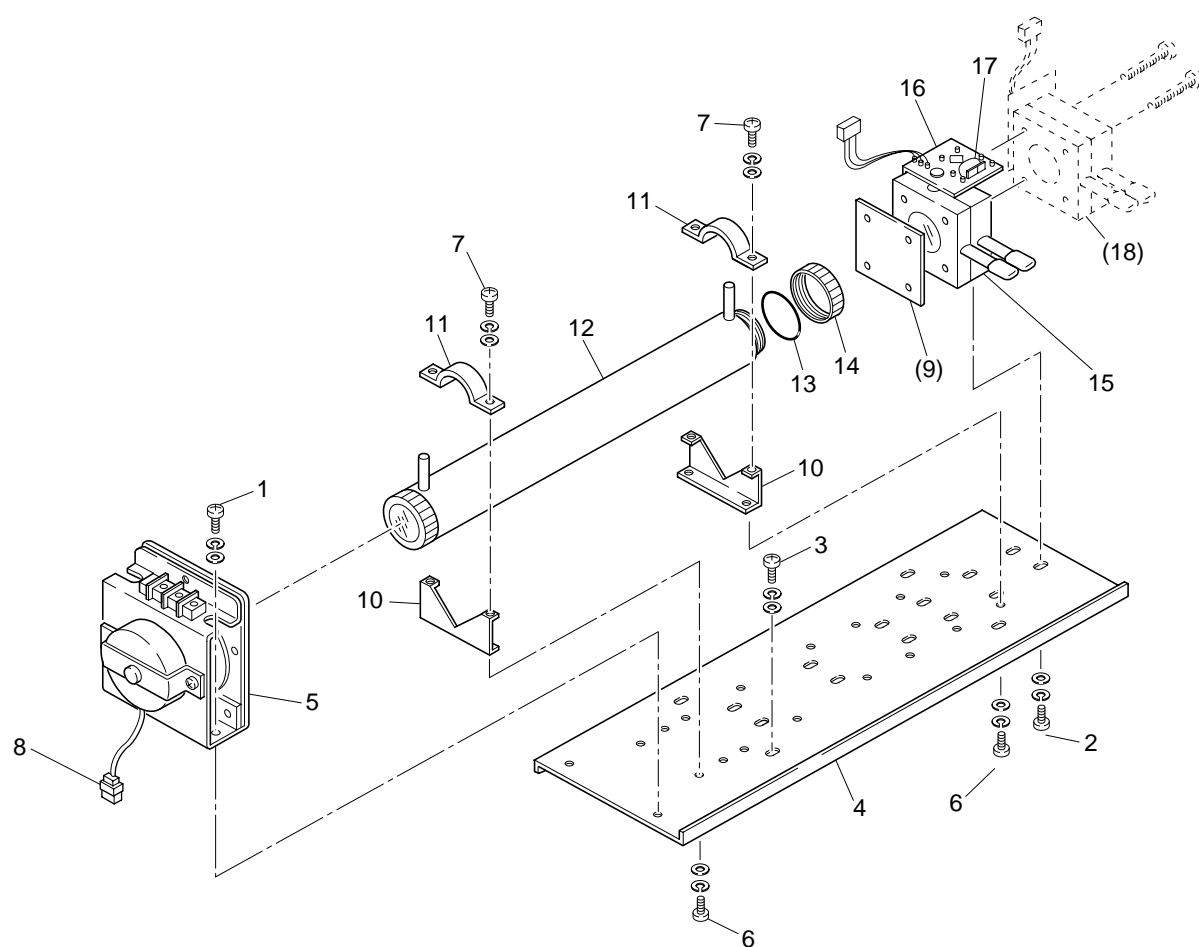

Fig. 7-1 Configuration of measuring unit (pipe cell)
2-component analyzer may incorporate both measuring cells in optical unit. In such a case, detach the pipe cell and then block cell (See Fig. 7-1).
#### (1) How to remove pipe cell (See Fig. 7-1)